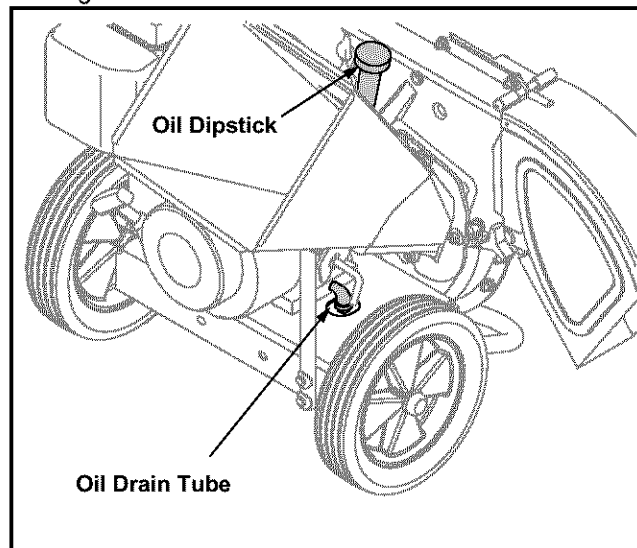

Figure 16
- Position the chipper shredder on level surface and place an appropriate receptacle with a capacity of at least one quart beneath the oil drain tube. See Figure 16.